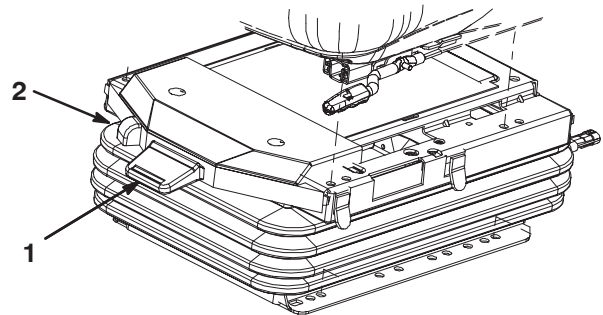

Figure 4
- Weight Adjusting Lever—Adjust for operator weight (Fig. 4)
- Weight gauge—Indicates when the seat is adjusted to the weight of the operator (Fig. 4). Proper adjustment is attained when the gauge is in the green region. Height adjustment is made by positioning the suspension toward the lower or upper range of the green region.